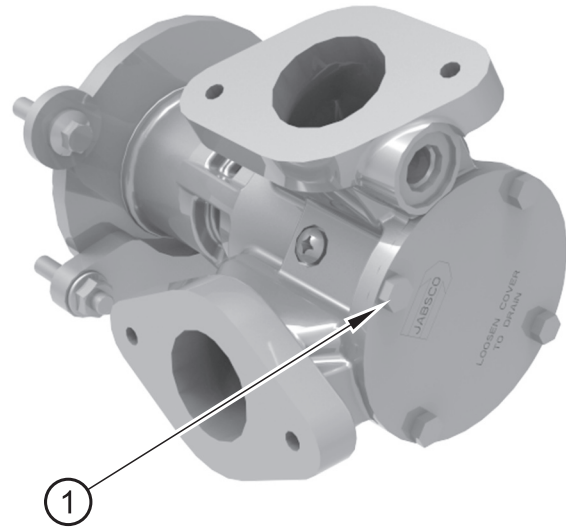

Figure 9
2. Release the four bolts (figure 9 items 1) which fasten the end plate of the auxiliary water pump and remove the plate. When the end plate of the auxiliary water pump is removed, some auxiliary water will flow from the pump.